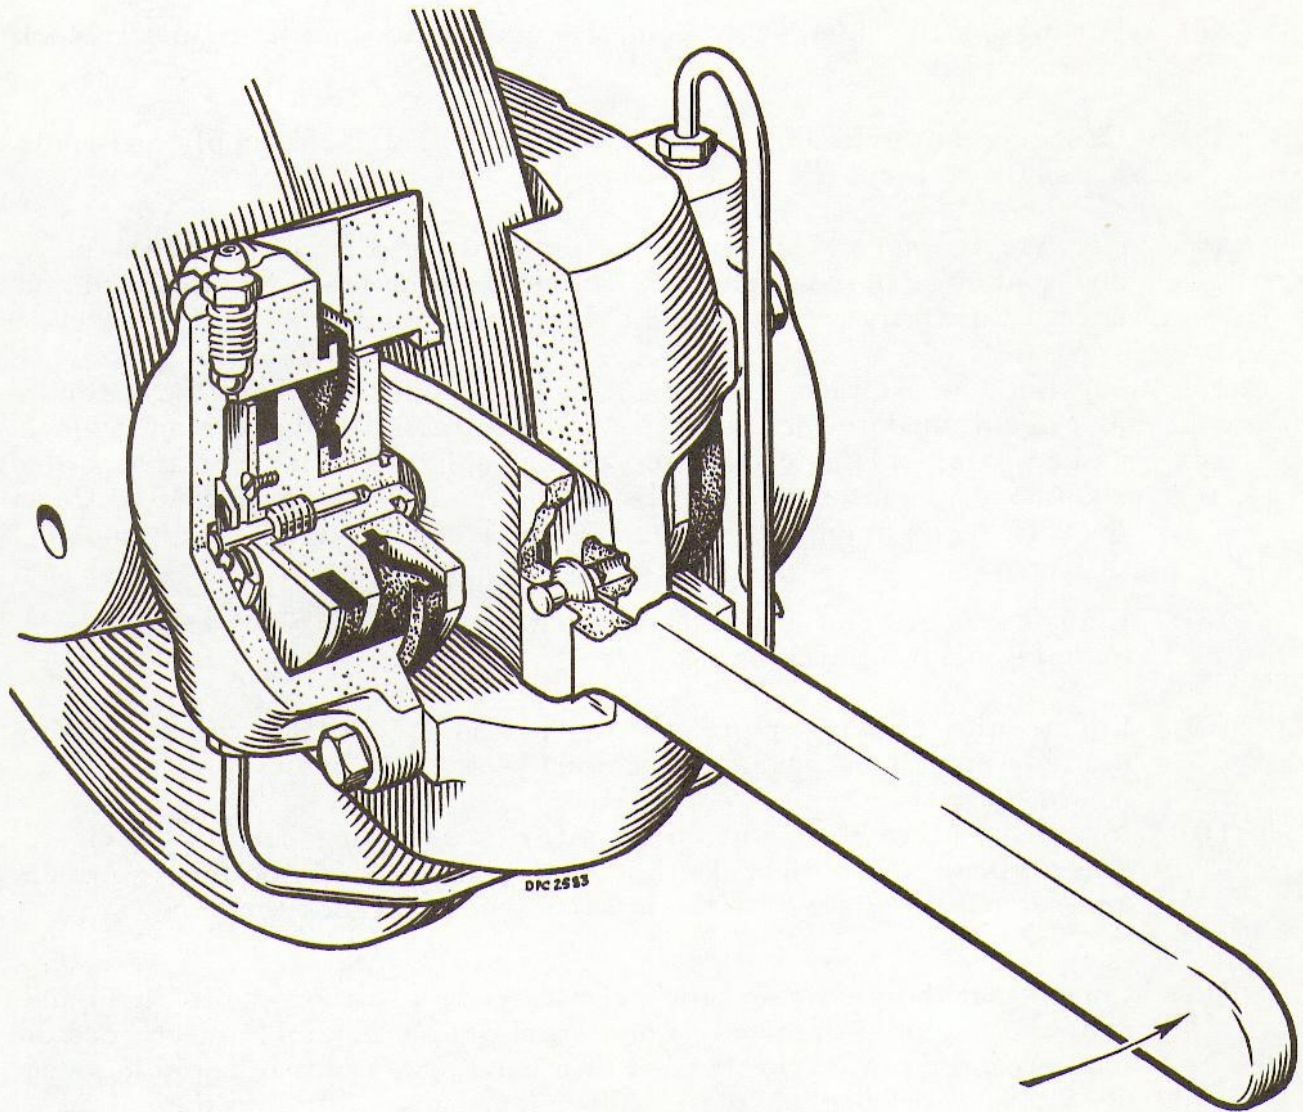

Fig. 5 Resetting the Pistons
- (1) Remove the nut, washer and bolt securing the keep plate and withdraw the plate.
- (2) With a suitable hooked implement engaged in the hole in the lug of the securing plate withdraw the defective pad assemblies.
- (3) Thoroughly clean, the backing plate, dust seal, and the surrounding area of the caliper.
- (4) With the aid of the special tool (refer to the relevant Data Sheet) press in the piston assemblies to the base of the cylinder bores, as described in the following instruction (5).
- (5) Insert the forked end of the piston re-setting lever (refer to Fig.5) into the space between the caliper bridge and one of the piston backing plates, with the fork astride the projecting piston spigot and its convex face bearing on the piston backing plate. Locate the spigot end of the lever pin in the keep plate bolt hole in the bridge. Pivot the lever about the pin to force the piston to the base of its cylinder. Insert the new friction pad assembly. Repeat this operation for the opposite piston assembly.
- (6) Replace the keep plate and secure it with the bolt, washer and nut.